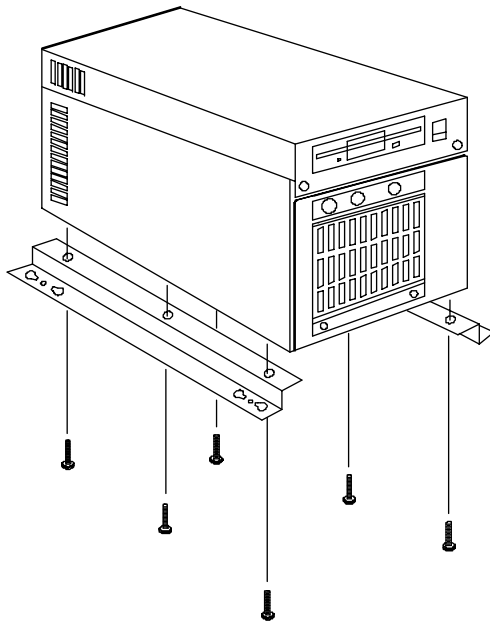

Figure 2-4. Wall-mounting the unit
1. Attach the brackets to the chassis by inserting the six provided screws as shown in Figure 2-4